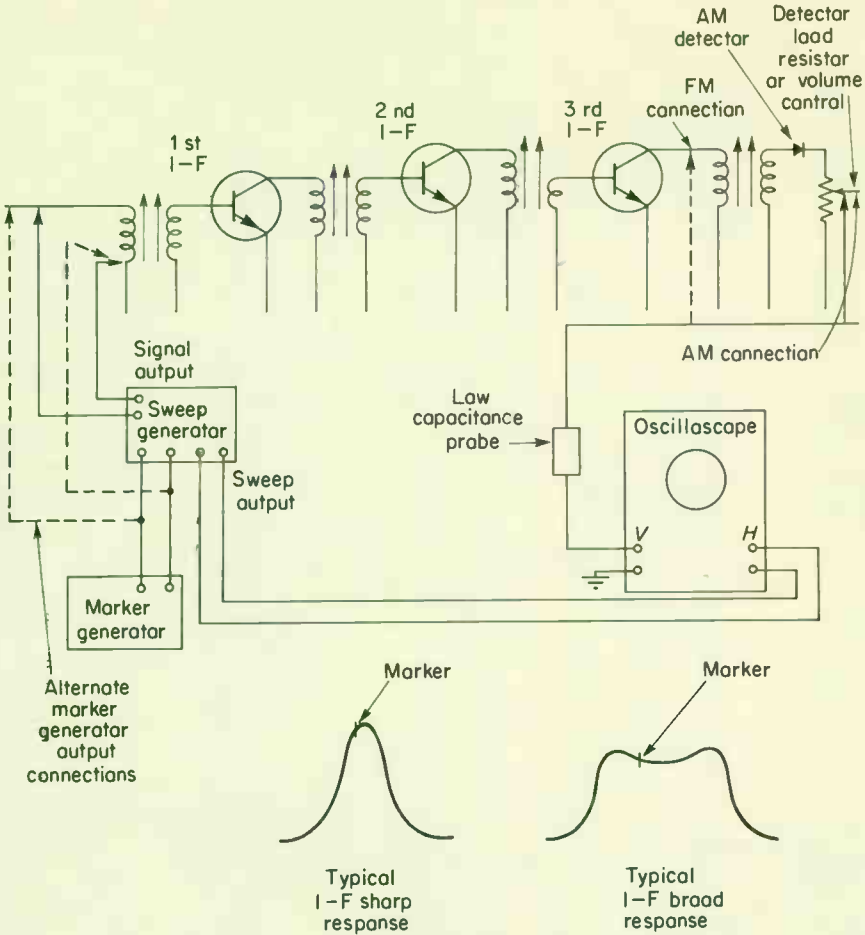

Fig. 11-5. Alignment of i-f amplifiers with on oscilloscope.
1. Connect the equipment as shown in Fig. 11-5.
4. Check the i-f response curve appearing on the oscilloscope against those of Fig. 11-5, or against the receiver specifications.